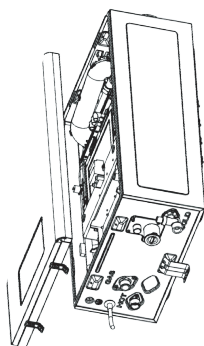

Figure 23
4. Loosen the four (4) Phillips head screws that attached the front panel to the casing of the unit (two on the top and two on the bottom). (Figure 23)